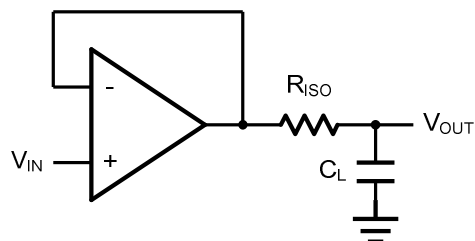
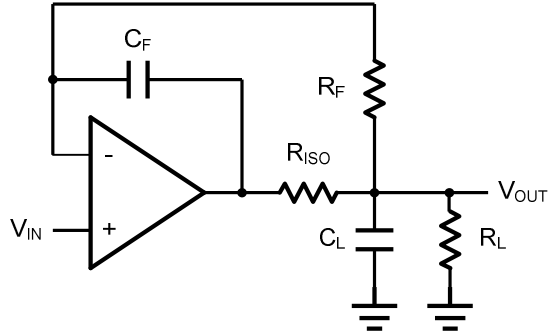

Figure 2. Indirectly Driving a Capacitive Load Using Isolation Resistor
Figure 3. Indirectly Driving a Capacitive Load with DC Accuracy
The HGV855x family is optimized for bandwidth and speed, not for driving capacitive loads. Output capacitance will create a pole in the amplifier's feedback path, leading to excessive peaking and potential oscillation. If dealing with load capacitance is a requirement of the application, the two strategies to consider are (1) using a small resistor in series with the amplifier's output and the load capacitance and (2) reducing the bandwidth of the amplifier's feedback loop by increasing the overall noise gain. Figure 2. shows a unity gain follower using the series resistor strategy. The resistor isolates the output from the capacitance and, more importantly, creates a zero in the feedback path that compensates for the pole created by the output capacitance.
The circuit in Figure 3 is an improvement to the one in Figure 2. R_{F} provides the DC accuracy by feed-forward the V_{IN} to R_{L} . C_{F}